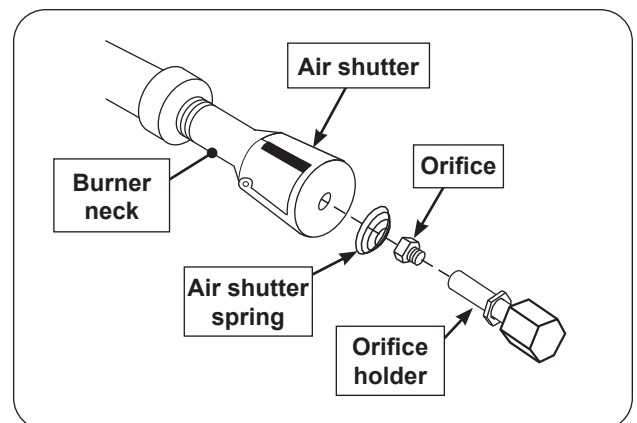

Fig. 48-3 Burner removal diagram
4. To re-install, position the air shutter spring and air shutter over the orifice holder fitting, between the burner and the heat shield, in the order and position shown in Fig. 48-3. Do for both burner necks.